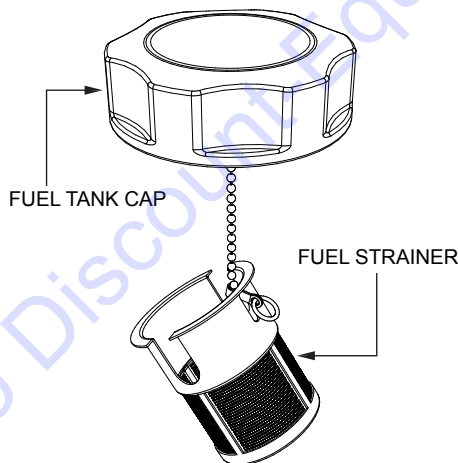

Figure 30. Fuel Strainer
- Next, remove, inspect and clean the fuel strainer (Figure 30) with solvent.